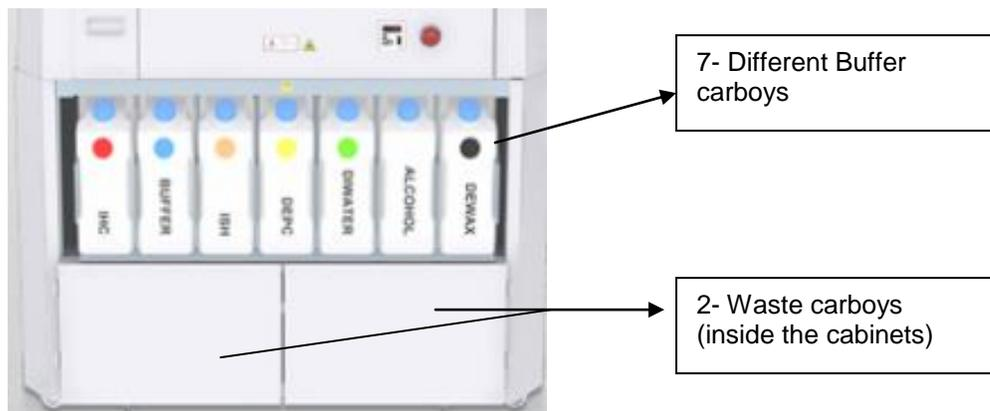

Fig: 1 Buffer carboys
- The complete set of carboys consists of nine (9) Carboys(Figure 1); Two 8L carboys are used for collecting the waste generated, and seven 4L Carboys for seven (7) different solutions. The colored liquid sockets on this panel are presented in this order:
- There are seven (7) pairs of sockets on the Liquid Panel. Each pair consists of a white connector for air tubing and for liquid tubing connection (**Fig. 1**).